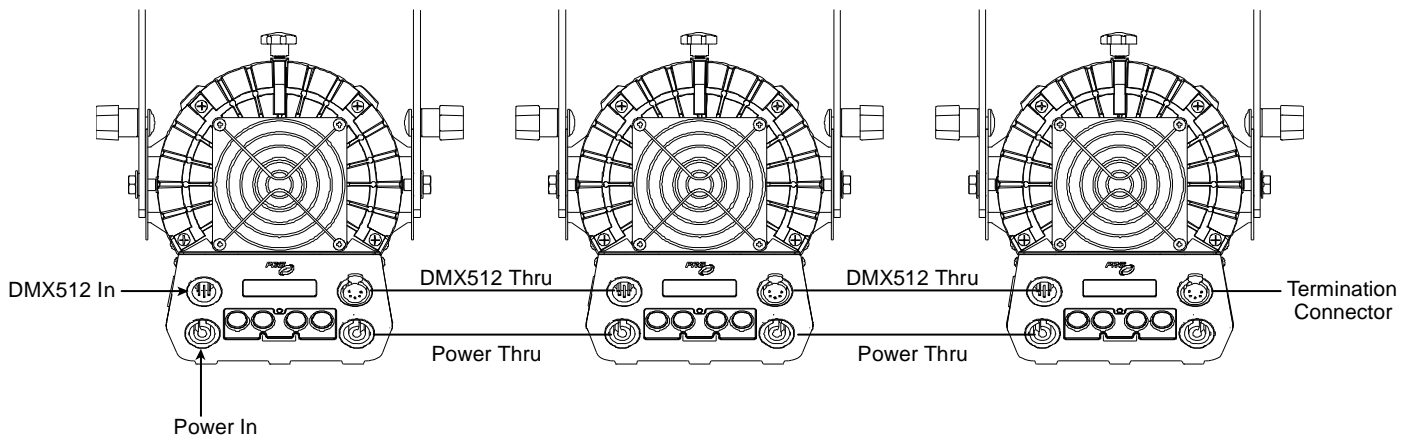

Figure 4: Daisy Chain Configuration
- Step 1. Connect DMX data cable from console to DMX IN connector at first ReNEW Assembly in chain (**Figure 4**).
- Step 5. If required, connect AC jumper cables from AC THRU connectors to AC IN connectors of remaining ReNEW Assemblies in chain. *A limit of four (4) ReNEW Assemblies can be connected using AC jumper cables.*